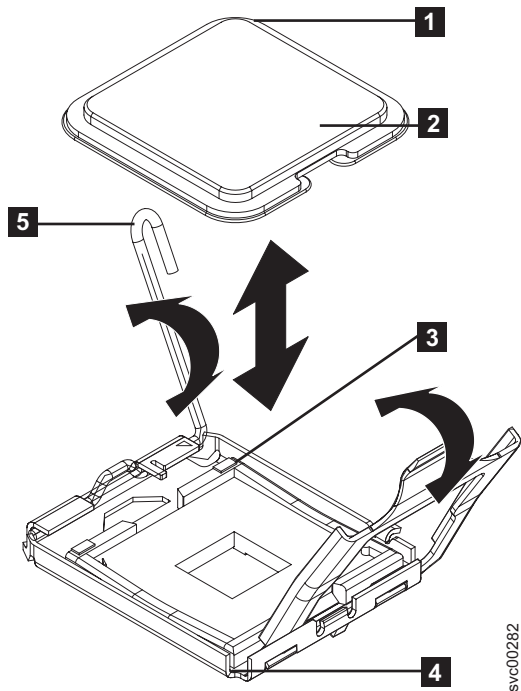

Figure 286. Installing the microprocessor
5. Install one of the microprocessors while carefully checking the orientation and remembering to close the release lever, which is shown in Figure 286 on page 262.